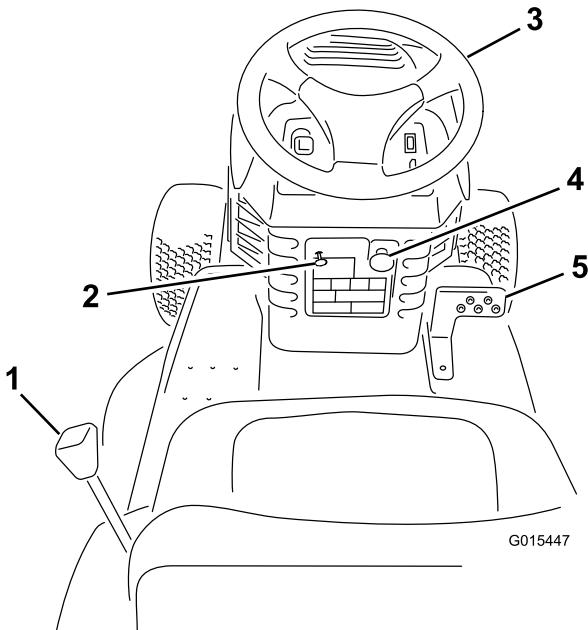
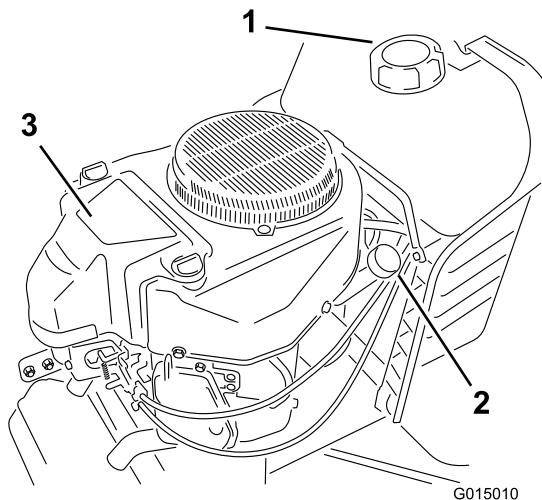

Figure 4
Figure 6
Become familiar with the controls (Figure 4 through Figure 6) before you start the engine and operate the tractor.
A dash-mounted On/Off switch (Figure 4) controls the headlights. The lights only shine while the engine is running and the switch is On.
3. Pull the choke lever out (Figure 4).